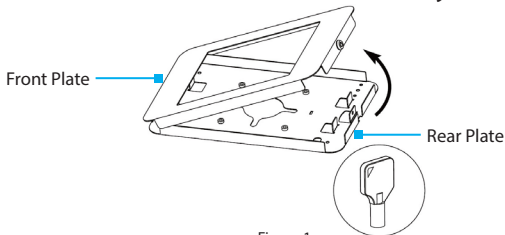

Figure 1
1. Insert the **Key** into the **Lock**, located on the side of the **Tablet Enclosure Assembly**, and turn counterclockwise to unlock. (Figure 1)